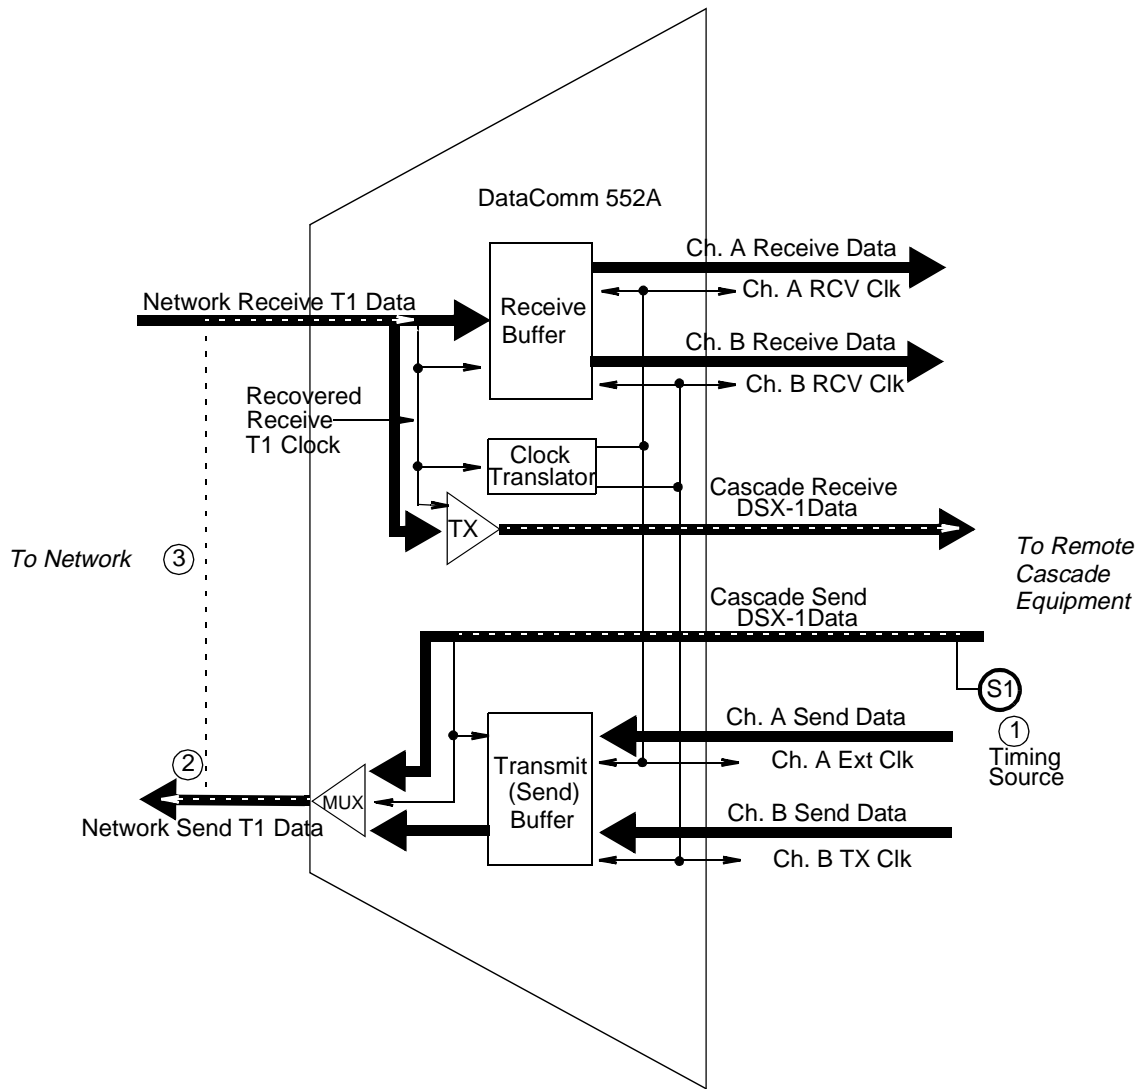

Figure B-11 Cascade Timing with a Cascade Timing Source
Cascade Timing with a Cascade Timing Source - As illustrated in Figure B-11, the remote cascade equipment provides the timing source (1), instead of the network. All timing and data handling functions internal to the DSU operate the same as with network timing, and the remote DSU uses the imbedded timing as its reference (2) and loops it back to the DSU (3).